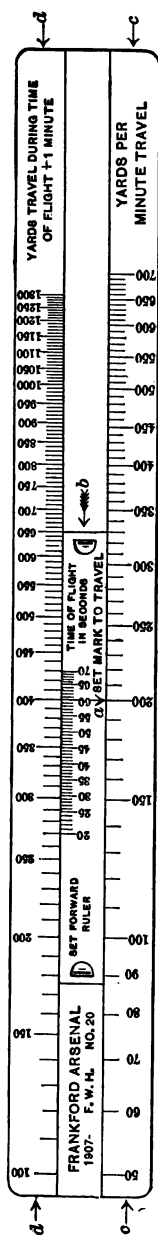

FIG. 81.
A. First find the travel in yards per minute. Set the pointer (a) on the slide (b) at the number of yards on the scale of "yards travel per minute (c)." Then on gun-arm get time of flight for that point. The "set-forward point" will be the reading opposite time of flight on the scale of "yards travel during time of flight + 1 minute (d)." (See Fig. 81.)
EXAMPLE.—After taking four observations on a target we find that in one minute's time it has traveled 200 yards. Set the pointer (a) at 200 yards on the scale (c). On the gun-arm we see that the time of flight for this point is sixty seconds. Therefore our set-forward point is 400 yards, as this is the reading exactly opposite the time of flight on scale (d). (See Fig. 81.)